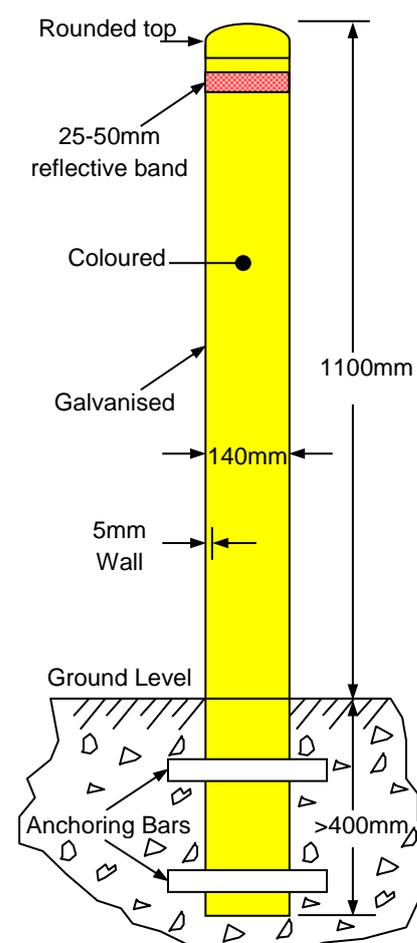

Figure 35 - Typical bollard detail
- Refer to Figure 35 - Typical bollard detail